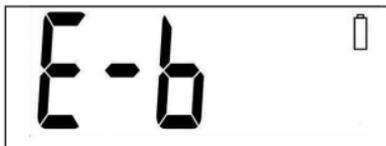

Figure 40
2. When the “” symbol appears together with the “E-b” symbol on the display, the battery does not have enough power for a test. You must change the battery before using the meter. *See Figure 40.*